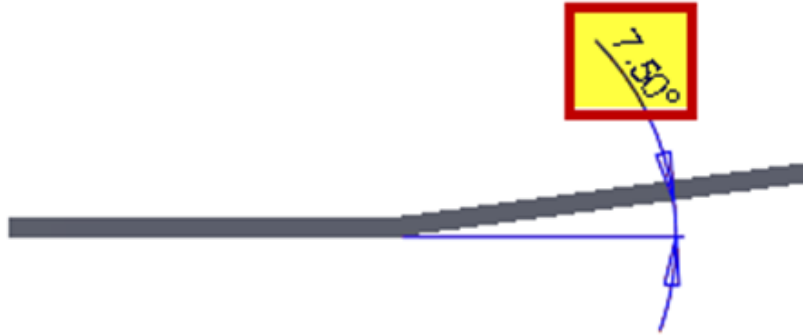

Figure 21e
1) When inserting a bend table (Figure 21e1) into the part (Figure 21e), the following message appears: “The angle of this table fell outside the bend table...”